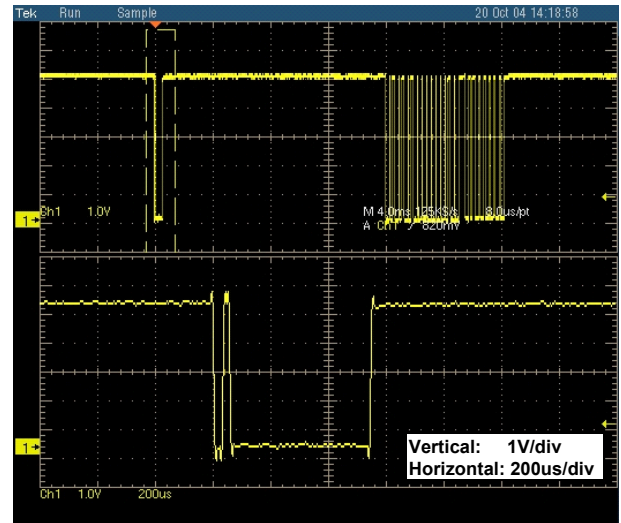

FIGURE 14. POWER-ON BREAK SIGNAL TO WAKE-UP THE ISL9206 FROM SLEEP MODE
There are three options to choose when sending the instructions frame, with "power on break", with "regular break", or "no break". The power-on break is a narrow break that should be used only when the user knows for sure that the device is in the sleep mode. After the narrow break, the device will wake up and send back a break (Refer to the datasheet for more explanation of the narrow power-on break). Figure 14 illustrates the captured waveforms. If the user does not know if the device is in the sleep mode or is
out a ‘power-on break’ before sending the instruction frame. Figure 14 illustrate the two ‘break’ signals. The narrow one was sent by the host and the wider one was the one returned from the ISL9206 (approximately 480ms). From the 480ms ‘break’ signal, the BT can be calculated as
1. If the device is in the sleep mode, send a 'power on break' with a read instruction in the XSD Access tab to measure the returned 'break' signal for ISL9206, as shown in Figure 14.